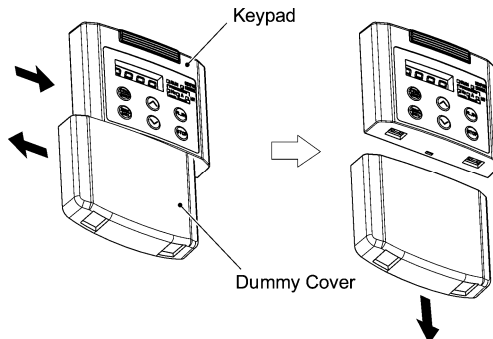

Figure 2.33 Separation of the Dummy Cover
- ② Separate the keypad from the dummy cover by sliding them in the arrowed directions as shown in Figure 2.33 below.